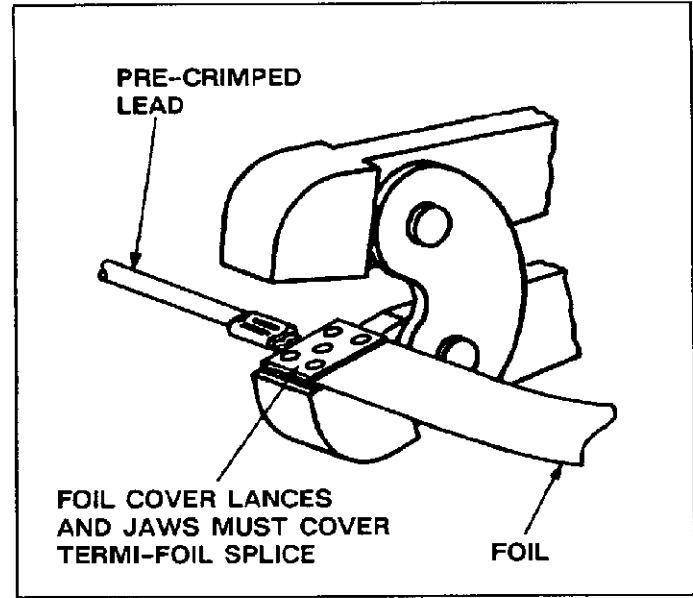

Fig. I-4
2. Place splice and foil between crimping jaws, as shown in Figure I-4. Make sure that the splice is completely covered by the jaw assembly.